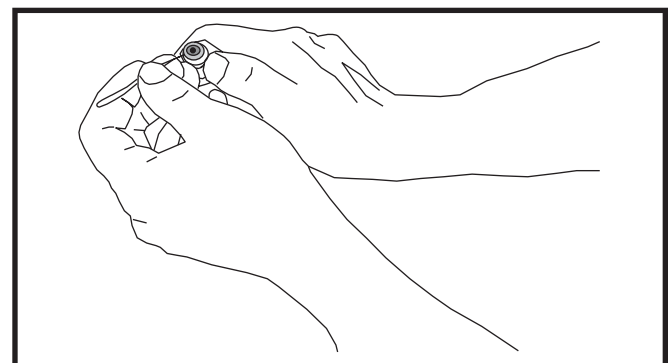

Figure 3. Removal of Orifice
2. Insert a light-gauge wire hook between the valve body and the restrictor orifice while being careful not to scratch either part. Carefully remove the restrictor orifice from the valve body. See Figure 3 \(page 4\).